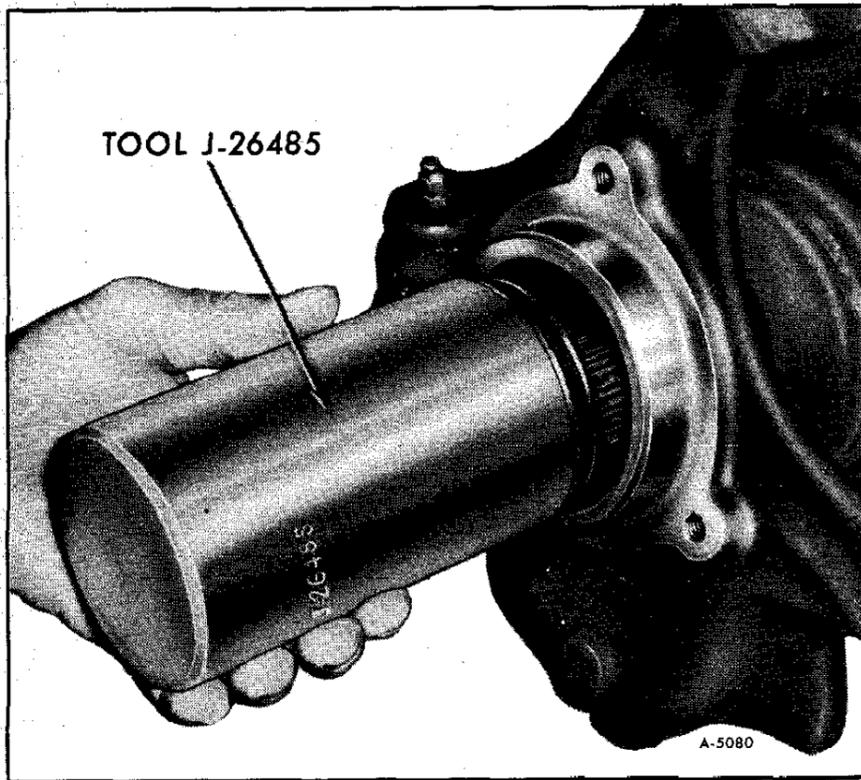

Figure 10—Installing Knuckle Seal
1. Lubricate seal inner lips with Special Seal Lubricant No. 1050169 or equivalent. Place knuckle seal on Tool J-26485. Insert tool as far as possible into knuckle and then drive it in with a hammer until it bottoms (figure 10). Remove tool.